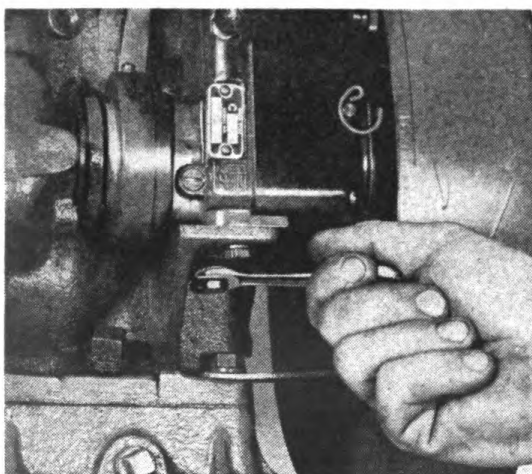

Figure 30
(1) Disconnect lead wire from magneto.
(2) Remove entire magneto from engine by removing two cap screws (See Figure 30).
Reassemble magneto to engine with two cap screws (See Figure 30), and attach lead wire to magneto.